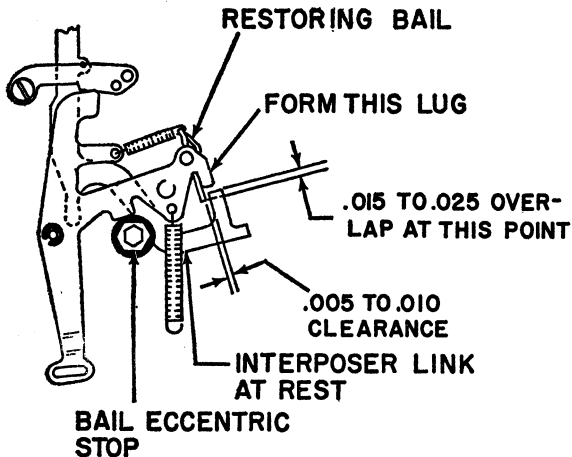

Figure 2. Restoring Bail Adjustments
2. BAIL ASSEMBLY ECCENTRIC STOP. With all parts at rest, the restoring bail should overlap the restoring lugs of the interposer links by .015" to .025". Adjust the eccentric stop for this condition (Figure 2). The bail operating link must be disconnected when making this adjustment. Insufficient overlap could prevent the bail from restoring the interposers far enough for them to latch down.
tween the bail and the lugs of the interposer links when the interposers are latched down and the bail is at rest (Figure 2).